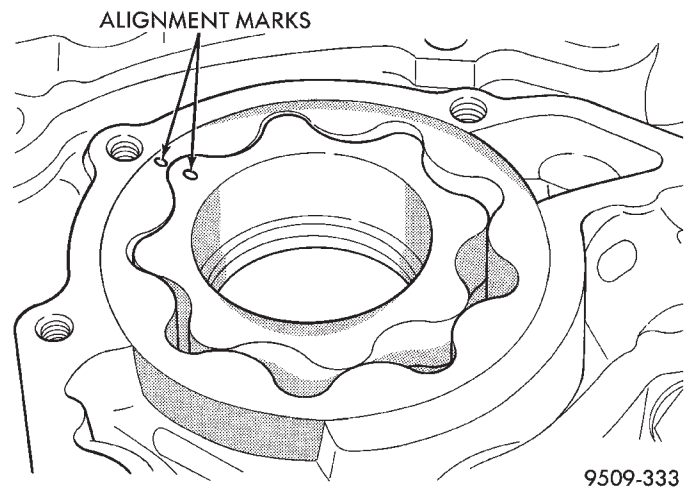

Fig. 87 Inner and Outer Rotor Alignment Marks
(1) Assemble pump, using new parts as required with clean oil. Align marks on the inner and outer rotors when assembling (Fig. 87).